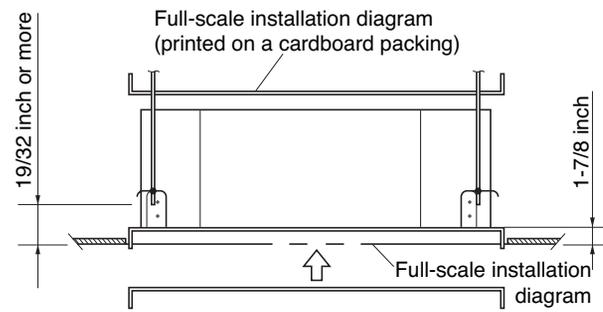

Fig. 3-4
- (1) When placing the unit inside the ceiling, determine the pitch of the suspension bolts using the supplied full-scale installation diagram. (Fig. 3-4) The size of the opening for the indoor unit can be confirmed by attaching the full-scale installation diagram beneath the unit. (Fig. 3-4) Tubing and wiring must be laid inside the ceiling when suspending the unit. If the ceiling is already constructed, lay the tubing and wiring into position for connection to the unit before placing the unit inside the ceiling.
- (2) The length of each suspension bolt must be appropriate for a distance between the bottom of the bolt and the bottom of the ceiling of 19/32 in. or more as shown in Fig. 3-4.
- (4) Remove the protective cardboard used to protect the fan parts during transport.
- (5) Adjust the distance between the unit and surface of the ceiling. (1-7/8 in.) (Fig. 3-4)